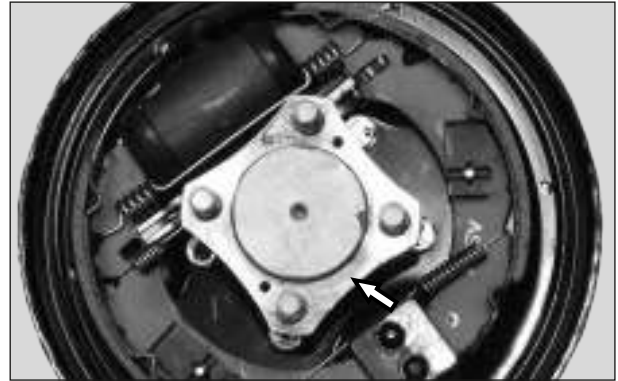

Fig. 5.68
- Take out the muff cup on wheel side from axle complete rear. (Fig. 5.68)